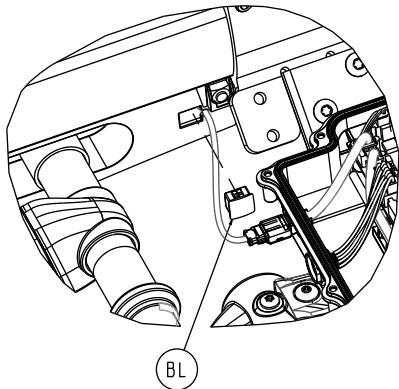

Figure 71 – Remove the hole plug
6. Using a pick, remove the hole plug (BL) from the back of the slider block (Figure 71). Save the hole plug.